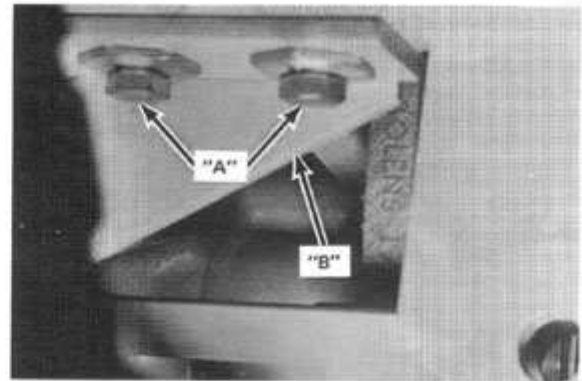

Figure 31
- Loosen capscrews "A", Figure 31.
- Secure capscrews "A", Figure 31.